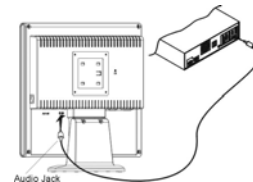

Figure 1-7
1. Connect the audio cable to the " LINE OUT " jack on your PC's audio card or to the front panel's "AUDIO OUT" jack of your CD ROM drive. (See Fig. 1-7)